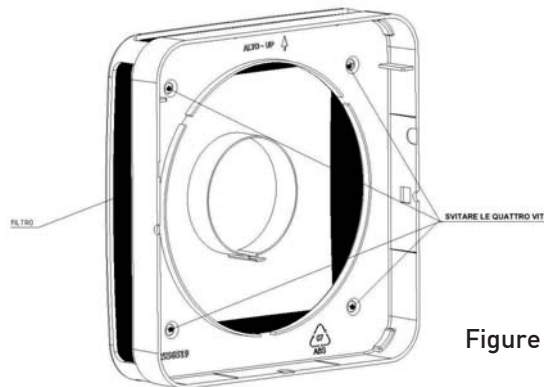

Figure 15
1. Changing the filter: after interrupting the power supply circuit, remove the cover and unscrew the four screws as shown in Figure 15. Clean the filter periodically by immersing it in cold water.